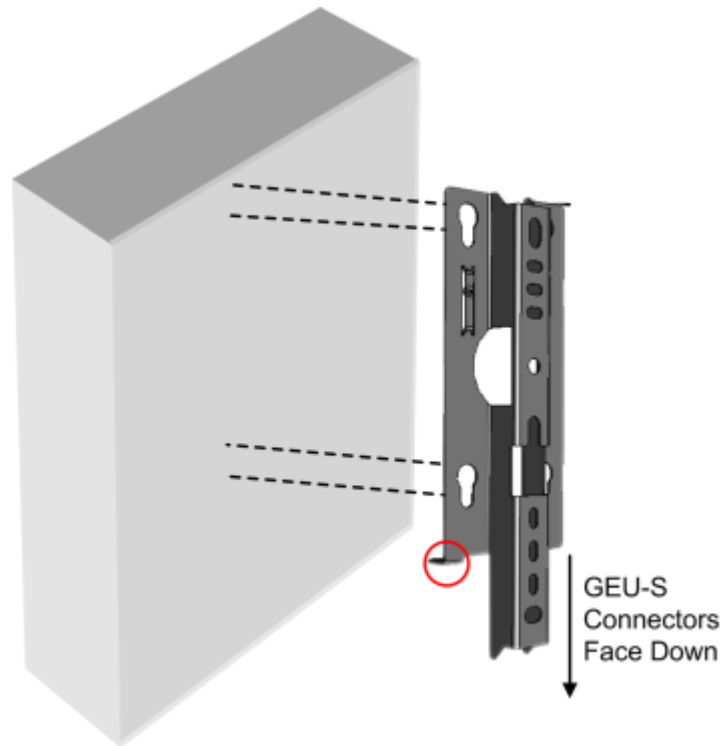
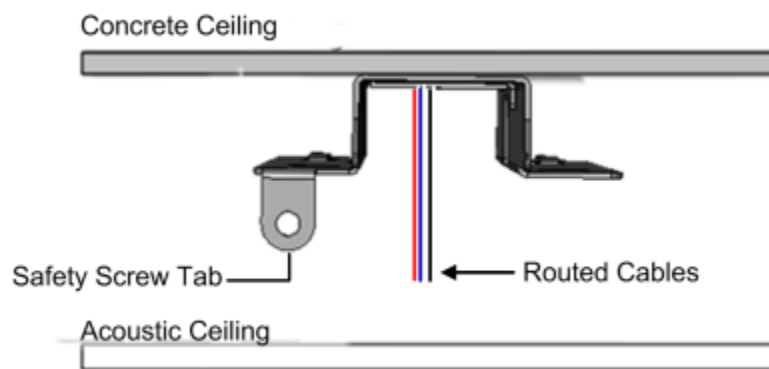

Figure 6-7: Mounting Bracket on Wall (Routed Cables Not Shown)
Figure 6-8: Bracket Installation and Routed Cables
- For wall mount installations - GEU-S must be installed parallel to the wall with the connectors facing downwards. See Figure 6-7
- Safety screw tab (shown in Figure 6-8) should be positioned to face the same direction as the GEU-S connectors.
Mount the bracket on the wall (Figure 6-7) or concrete ceiling (Figure 6-8) using any of the screw hole sets and the appropriate screws (not provided).